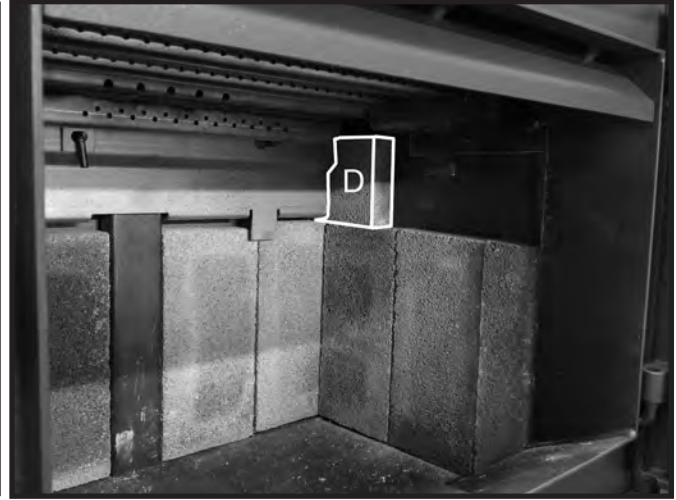

Figure 23: Small side wall firebrick in position.
6. Place a "D" firebrick on top of the previously placed "A" firebricks and slide this firebrick back toward the rear wall making sure that this firebrick tucks in behind the brick rail (Figure 23).